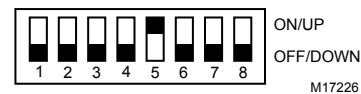

Fig. 1. Dip Switch Settings.
1. Set the switches for direct connection to an PC serial port as shown in Fig. 1.